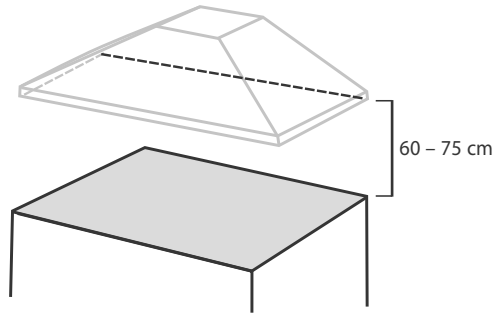

Fig.2 Establishing height of rangehood
- 1 Establish the desired height of the rangehood above the benchtop according to the 'Installation height requirements' above. Measure this distance from the top of the benchtop and, using a spirit level, draw a light horizontal line on the wall. Make sure that the line can easily be erased or will be hidden after installation. This is where the bottom of the rangehood will sit (Fig.2).